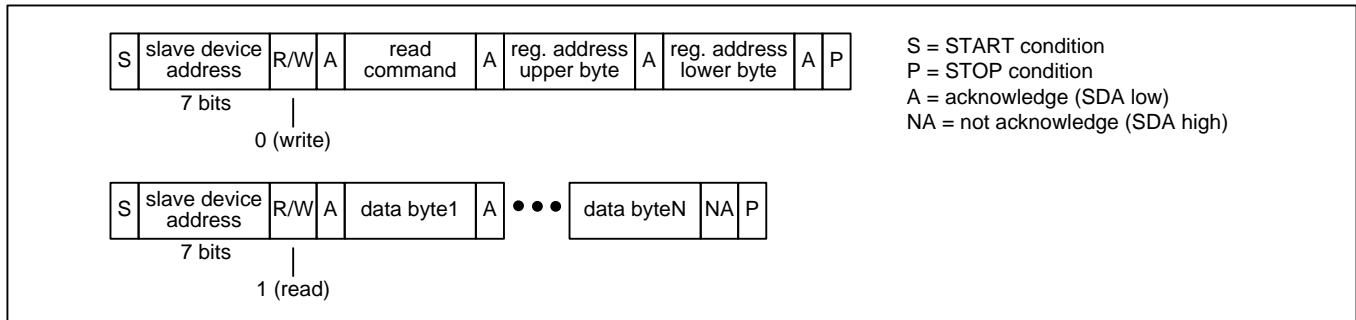
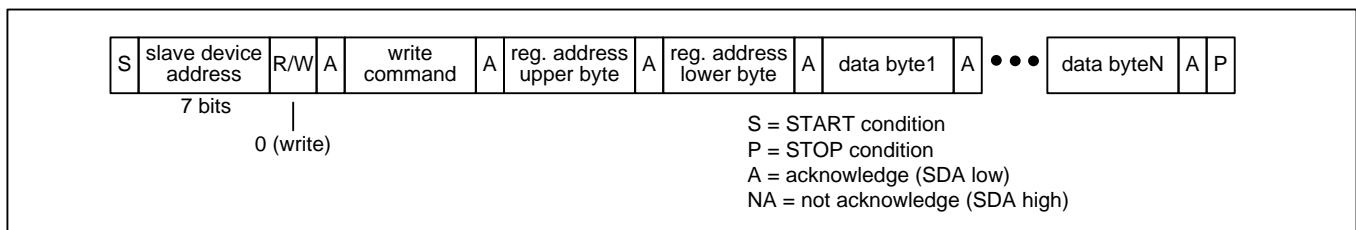

Figure 6 - I²C Read Transaction Functional Timing
Figure 7 - I²C Write Transaction Functional Timing
Read Transactions. The bus master first does an I²C write to the device. In this transaction three bytes are written: the SPI Read command (see Table 3), the upper byte of the register address, and the lower byte of the register address. The bus master then does an I²C read. During each acknowledge (A) bit the device fetches data from the read address and then increments the read address. The device then transmits the data to the bus master during the next 8 SCL cycles. The bus master terminates the read with a not-acknowledge (NA) followed by a STOP condition (P). See Figure 6. Note: If the I²C write is separated in time from the I²C read by other I²C transactions then the device only outputs the data value from the first address and repeats that same data value after each acknowledge (A) generated by the bus master.
Write Transactions. The bus master does an I²C write to the device. The first three bytes of this transaction are the SPI Write command (see Table 3), the upper byte of the register address, and the lower byte of the register address. Subsequent bytes are data bytes to be written. After each data byte is received, the device writes the byte to the write address and then increments the write address. The bus master terminates the write with a STOP condition (P). See Figure 7.
Note: In Figure 6 and Figure 7, a STOP condition (P) immediately followed by a START condition (S) can be replaced by a repeated START condition (Sr) as described in the I²C specification.